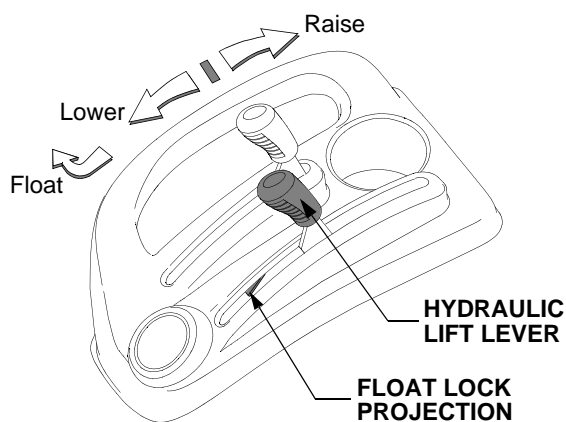

Figure 19
- Move the lift lever forward in the slot to lower the equipment to the desired height setting. Refer to Figure 19.